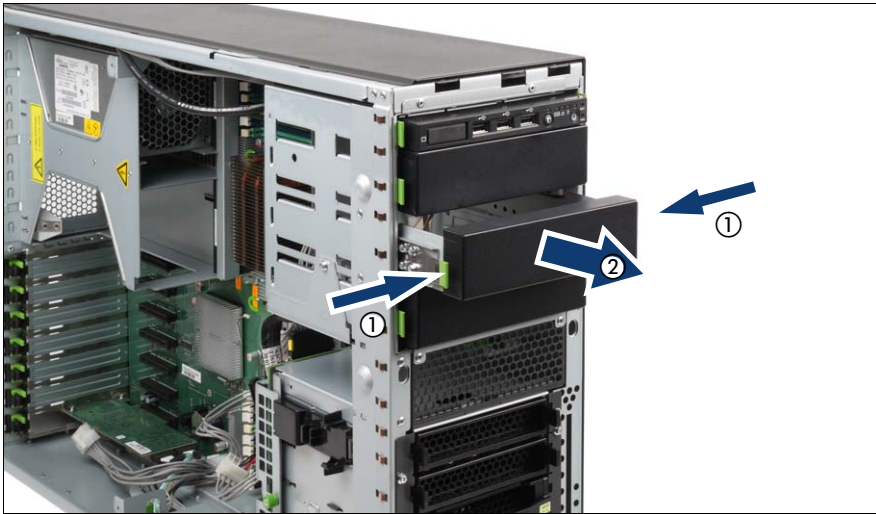

Figure 26: Removing the dummy cover
- ▶ Detach the EasyClick rails from a dummy cover by removing the four screws on each side (see figure 26 on page 56).